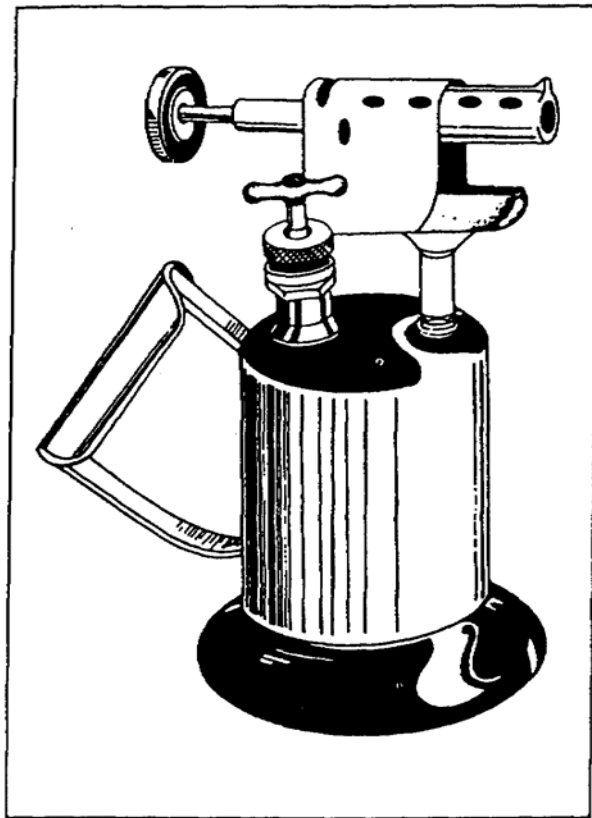

Figure 3-10. Blowtorch
i. Blowtorches. Use blowtorches (Figure 3-10, page 3-10) to remove paint from interior and exterior surfaces. Blowtorches are available in many forms and use gasoline, alcohol, acetylene, or petroleum gas for fuel.
(1) To fill a blowtorch, turn it upside down and unscrew the filler plug. Pour unleaded gasoline (leaded gasoline will clog the torch) into the base, which serves as a funnel. When the tank becomes full, replace the filler plug and wipe off the excess gasoline. Turn the blowtorch upright, then operate the air pump to put pressure on the gasoline in the reservoir. Pour a small amount of gasoline in the bowl located below the vaporizing assembly, and ignite the gas. You can also place gasoline in the bowl by opening the needle valve by a small amount and allowing the gasoline to drip into it. When the gasoline in the bowl is almost burned, open the needle valve and the torch will light. In addition to conventional blowtorches, there are torches that use pressurized petroleum. These torches are very convenient, especially for removing paint from small areas.